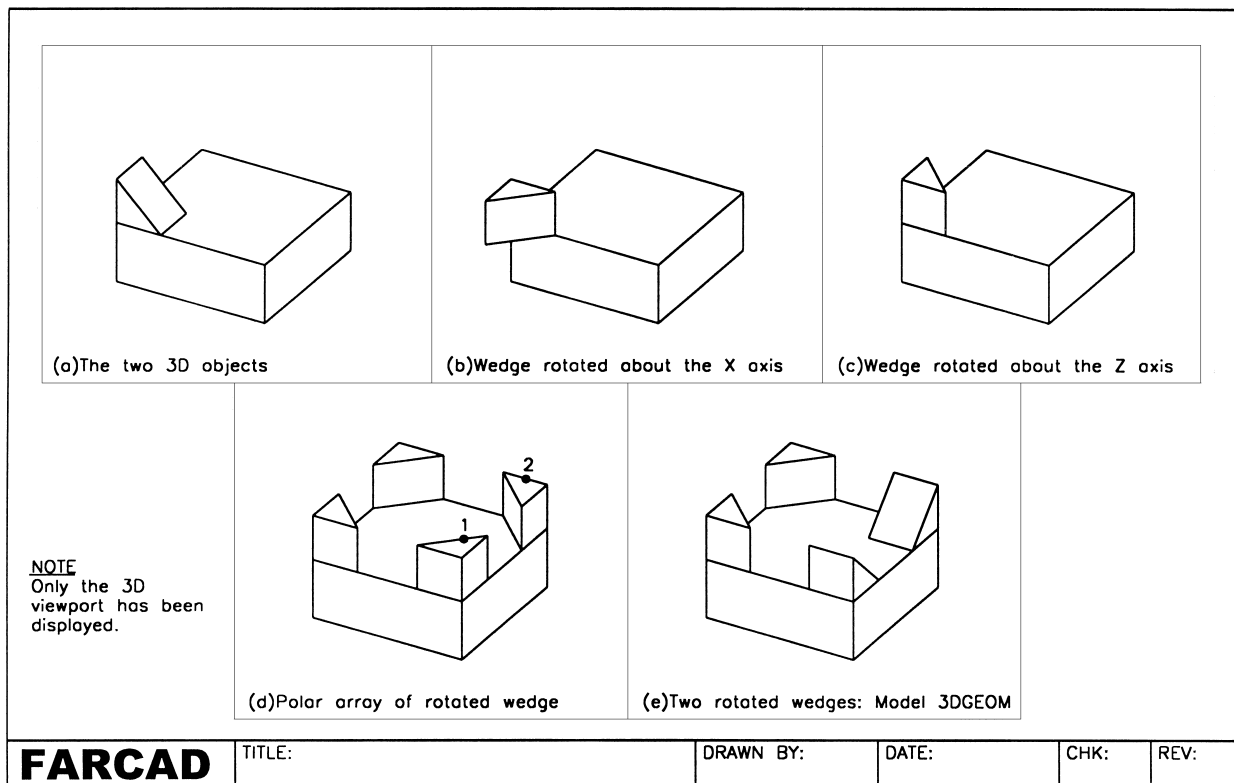

Figure 22.1 The 3DGEOM model for the 3D commands.
- d) refer to Fig. 22.1 which displays the 3D viewport only
- The blue wedge is rotated about the x-axis as Fig. 22.1(b)